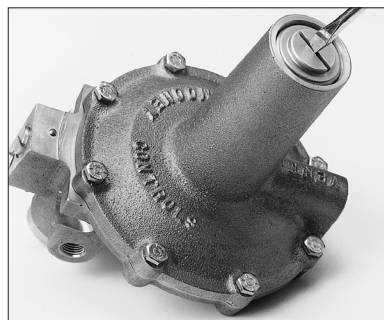

Figure 37
- Install Set Point Spring Adjuster and screw it into the Spring Housing at least 3/4” (refer to Figure 37).